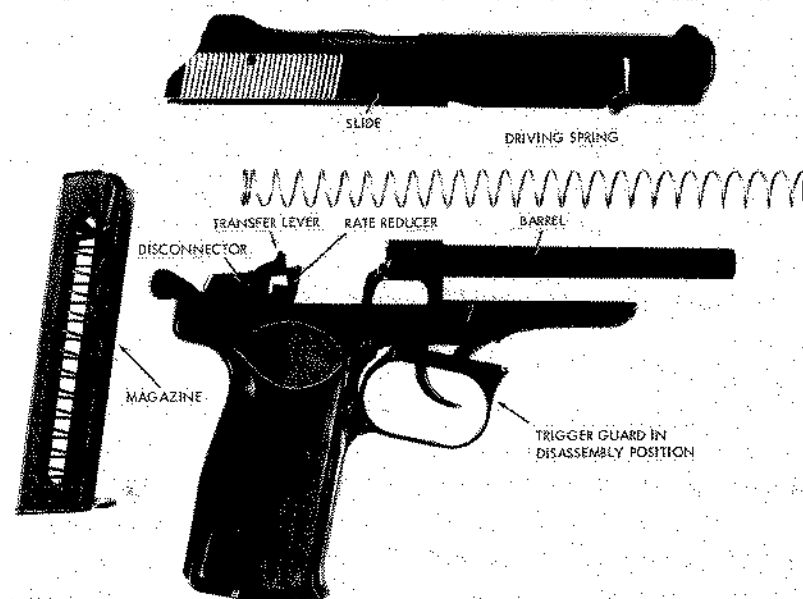

Figure 23. Stechkin, disassembled.
(1) Clear the weapon (para 33g), but do not insert the magazine or reset the selector to safe.
(2) Pull the front of the trigger guard down; it will remain in position (fig 23).
(3) Grasp the slide by its milled grooves, pull it fully rearward, and lift its rear end up and out of engagement with the receiver. Ease the slide forward, over the barrel, until it is free. Pull the driving spring off the barrel.
(4) No further disassembly is necessary or desirable.
c. When the Stechkin is cocked and set for semiautomatic fire, pressure on the trigger moves the trigger bar forward. As the trigger bar moves forward, it cams the disconnecter upward (17, fig 24). The stud on the side of the disconnecter lifts the sear (15, fig 24) from engagement with the hammer. The hammer falls, under pressure of the mainspring, and fires a cartridge. The slide is forced rearward by the propellant gases, the driving spring is compressed, the disconnecter is cammed down (fig 23), and the hammer is rocked rearward.
f. As the slide recoils, a cam on the slide strikes a T-shaped transfer lever (figs 23 and 24) and forces it down against the retarder; this transfers some of the energy from the slide to the retarder and drives the retarder downward against its spring. By the time the slide counterrecoils, the retarder, driven by its spring, has started upward, and strikes the transfer lever, driving it upward. The lever hits the shaft of the selector and stops. At this selector setting, the retarder does not strike the trigger bar.